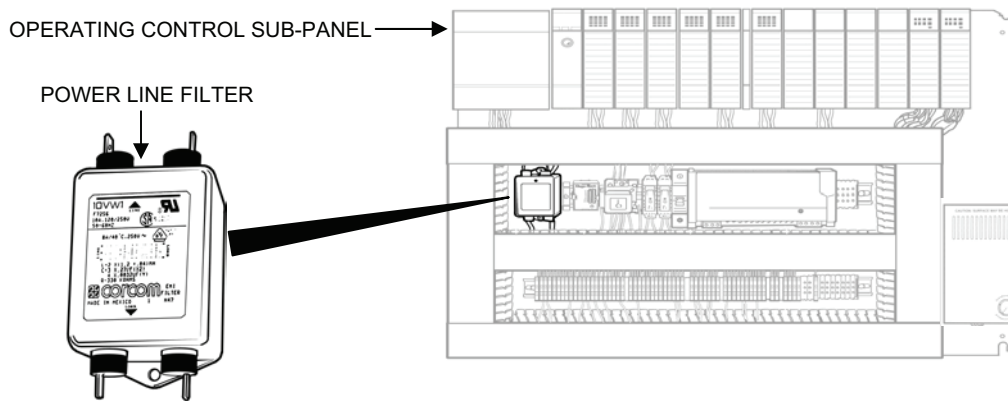

Figure 12. Power Line Filter Removal.
3. Remove the power line filter as follows (see Figure 12):